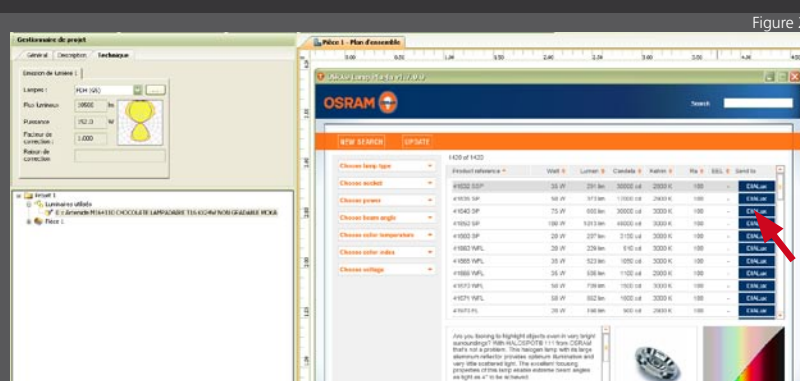

Figure 2
- Choose the desired lamp and clic on DIALUX button (Figure 2).